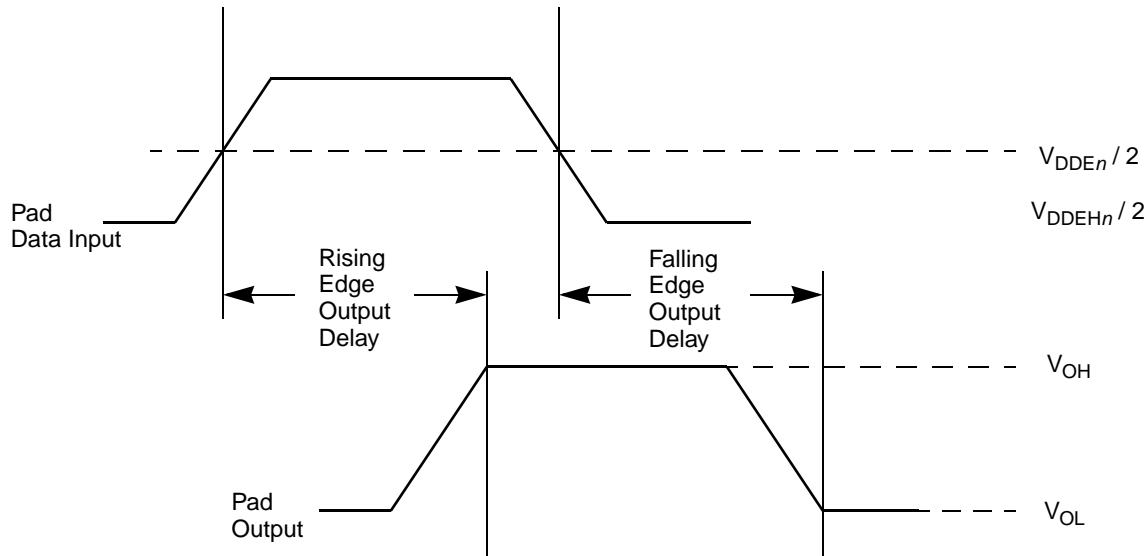

Figure 7. Pad Output Delay
⁵ Out delay is shown in Figure 7. Add a maximum of one system clock to the output delay for delay with respect to system clock.
⁶ Out delay is shown in Figure 7. Add a maximum of one system clock to the output delay for delay with respect to system clock.
- 5 Out delay is shown in Figure 7. Add a maximum of one system clock to the output delay for delay with respect to system clock.